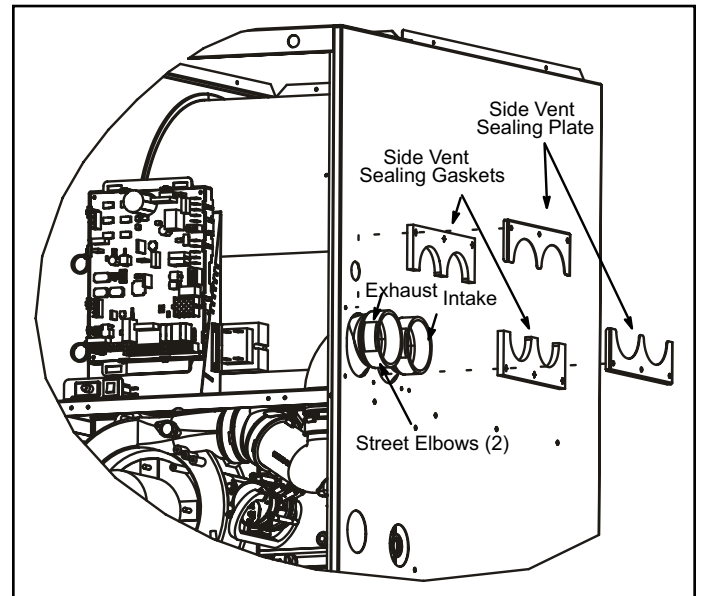

Figure 14. Right-Side Vent Configuration
Using parts provided, the furnace may be field modified to have these connections on the right side of the furnace cabinet. See Figure 14 and follow the steps below. For left side venting, order kit 87W73.
11. Peel protective backing from side vent sealing gaskets (2) and apply to side vent sealing plates (2) as shown in Figure 14.
12. Install the side vent sealing plates and gaskets on the exterior of the cabinet as shown in Figure 14. Secure with six mounting screws (four reused and two provided from bag assembly). Holes are pre-punched in the parts and cabinet, no drilling is required.